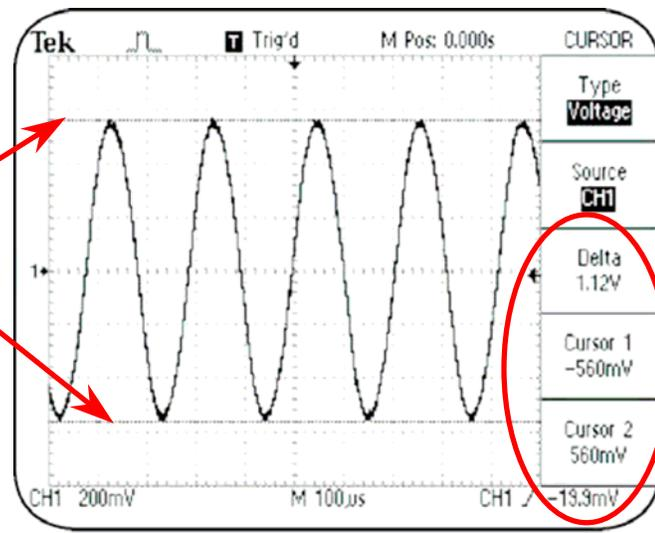

Figure 7: Voltage measurements using the cursors.
4. Use the **CURSOR 1** knob to place a cursor at the bottom of the valleys as shown in Figure 7.